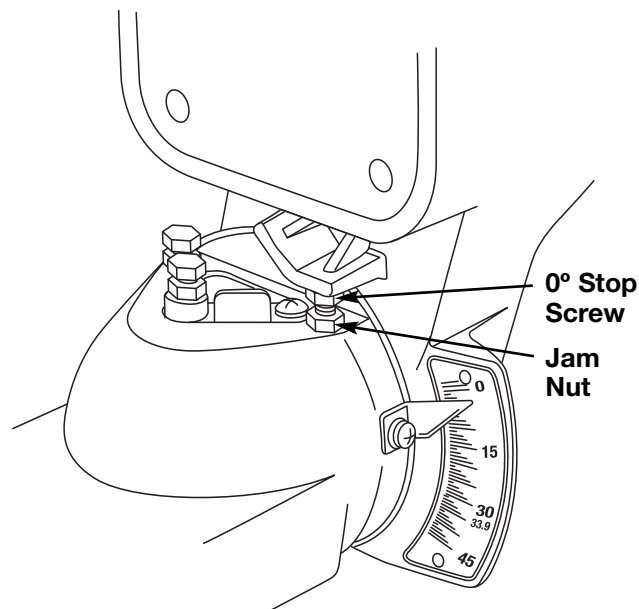

Figure 7. Bevel 0° Stop Screw and Jam Nut
6. Adjust 0° bevel stop screw with 12mm or adjustable wrench until the blade makes contact with the full length of the square. Tighten jam nut (Figure 7).